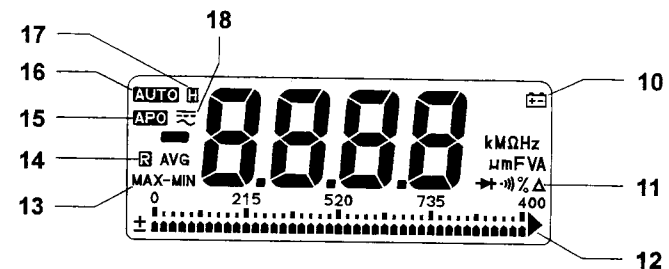

FIG 2. LCD DISPLAY (SHOWN ACTUAL SIZE)
(B) LCD ILLUSTRATION, See FIG 2
18.  — annunciator indicates direct current (DC) is selected. \sim annunciator indicates alternating current (AC) is selected